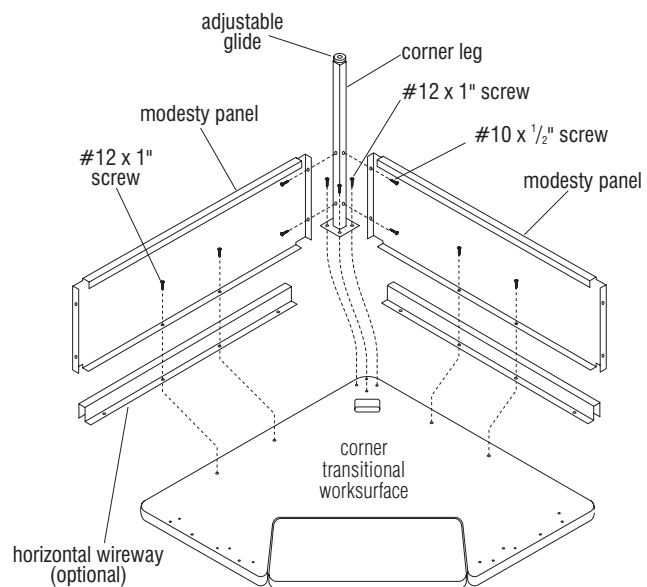

Figure 2
2. To avoid scratching the transitional worksurface, place the top face down onto a soft protective surface (Figure 2).
3. Position the corner leg over the pre-drilled holes in the back corner of the worksurface. Be sure the modesty panel mounting holes are oriented as shown. Attach the corner leg to the worksurface with four #12 x 1" screws. Do not tighten at this time (Figure 2).
4. Align one modesty panel to the corner leg and worksurface mounting holes. If optional horizontal wireways are to be installed to unit, place wireways between the mounting flange of the of the modesty panel and the worksurface, aligning the mounting holes as illustrated. Insert two #10 x 1/2" screws through the modesty panel and into the corner leg. Attach modesty panel (through optional horizontal wireways if applicable) to worksurface with two #12 x 1" screws. Do not tighten at this time. Repeat this step for second modesty panel. Tighten all screws attaching the corner leg and the modesty panels (Figure 2).